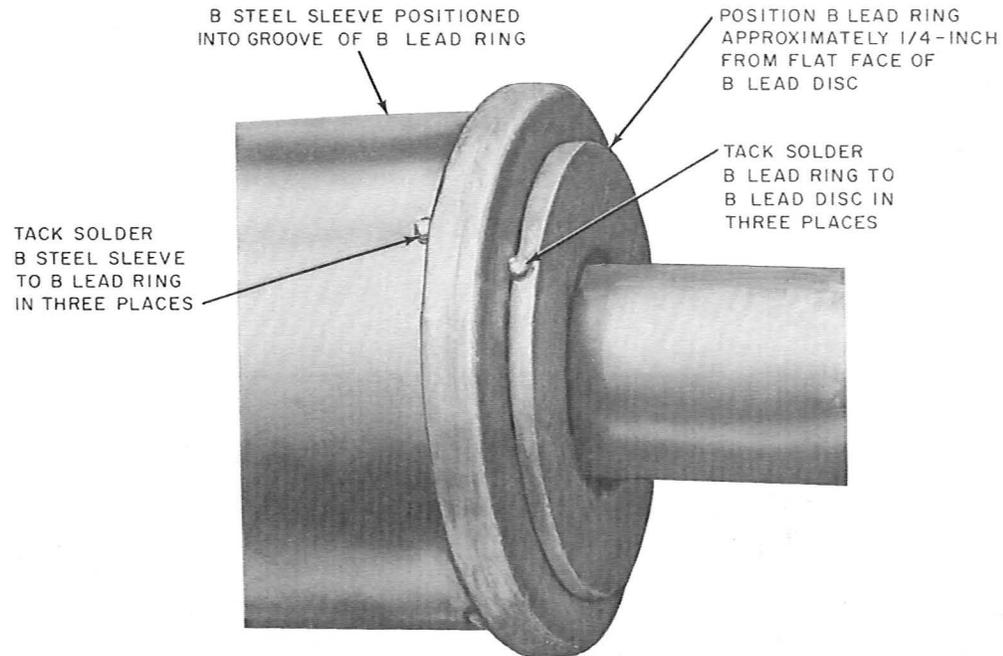

Fig. 8—Positioning B Lead Ring and B Steel Sleeve
6.07 Slide the B Lead Ring over the B Lead Disc on one side of the splice. Position it approximately 1/4 inch from the flat face of the lead disc as shown in Fig. 8.
6.08 Tack solder the B Lead Ring to the B Lead Disc in three places on the outside faces. (Fig. 8)
- 6.11** Tack solder the B Lead Ring to the B Lead Disc in three places. (Fig. 8)
- 6.12** Tack solder the B Lead Ring to the B Steel Sleeve in three places on each side of the splice (Fig. 8).